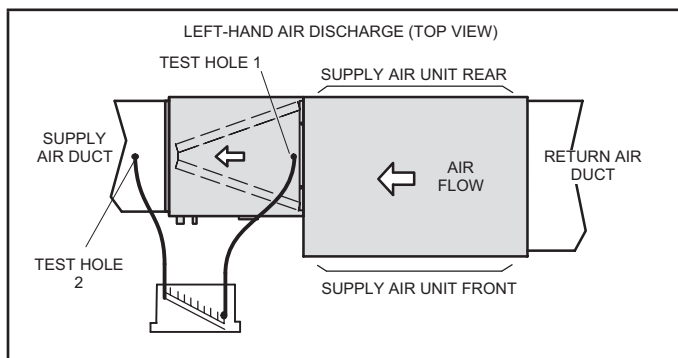

FIGURE 9. Static Pressure Test
Connect the main drain and route downward to drain line or sump. Do not connect drain to a closed waste system. See figure 9 for typical drain trap configuration.
To ensure accuracy, static pressure must be read from the air entry side of the coil to the air exit side of the coil. See figure 9 for an example to obtain an accurate reading.
- 1 - Drill a 5/16" test hole in the coil case 1" from the furnace flange (test hole 1, figure 9).
- 2 - Drill a 5/16" test hole into the supply air duct (test hole 2, figure 9).